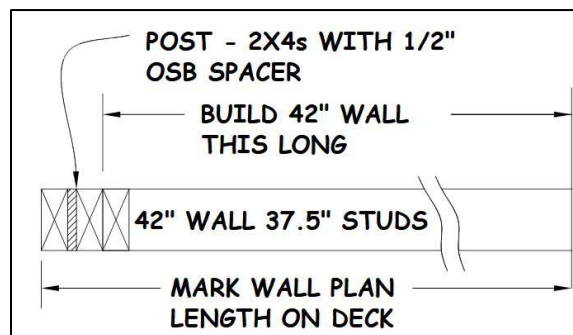

Figure 3-12. Marking Wall Plan on Deck.
- b. Mark the wall with the full wall length, including the 3½” x 3½” end post (see Figure 3-12).